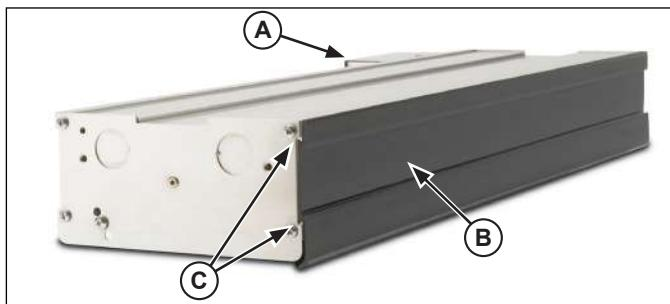

Figure 1. Installation of Kool-Touch® Panels.
- Beginning on the side that does not have the control box (A), slide the Kool-Touch® (B) panel into position by starting at one end of the unit. Slide the Kool-Touch® panel in the channel (C) on the side of the unit until it is in place. (Ganged units will require two pieces trimmed to fit). See Figure 1.